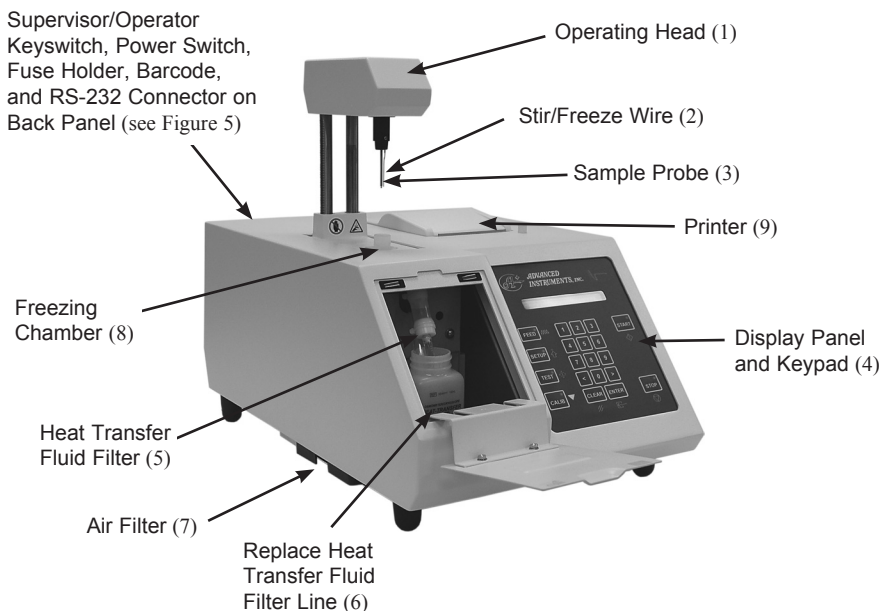

Figure 3: Model 3250 Components and Controls
Operating head (Figure 3, Item 1)
Freezing chamber (Figure 3, Item 8)
Display panel (Figure 3, Item 4)
Keypad (Figure 3, Item 4)
Printer (Figure 3, Item 9)
1. Remove the sample tube from the freezing chamber (see Figure 3, Item 8).